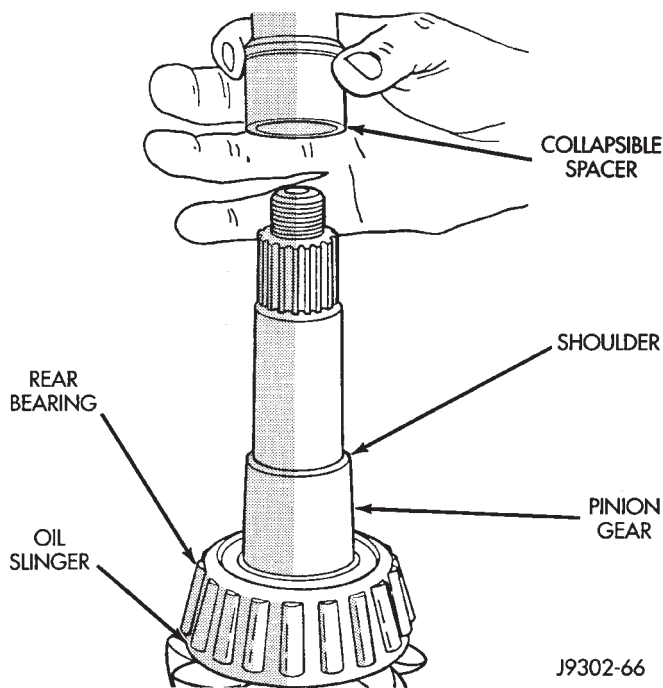

Fig. 52 Collapsible Preload Spacer
(4) Assemble collapsible spacer onto pinion shaft (Fig. 52).